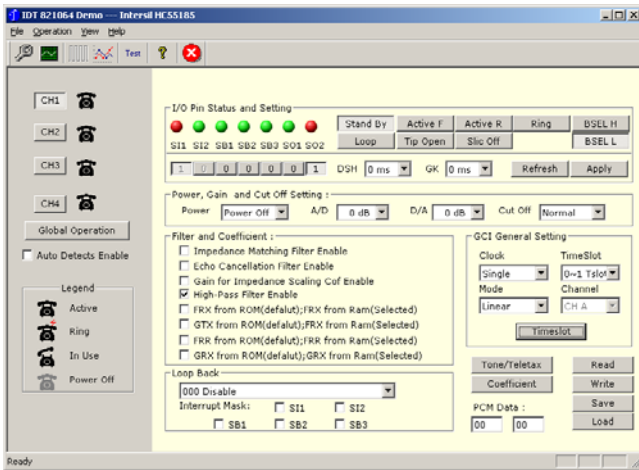

FIGURE 3. GCI OPERATION GENERAL INTERFACE
Programming of the logic state of the SLIC, loop supervisory detection, time slot allocation, coefficients, tone/ teletax signals are all controlled via software using the GCI screen (Figure 3).
5. The GCI Mode screen will then appear (Figure 3). All programming of the channels and monitoring of SLIC status are performed using this screen.